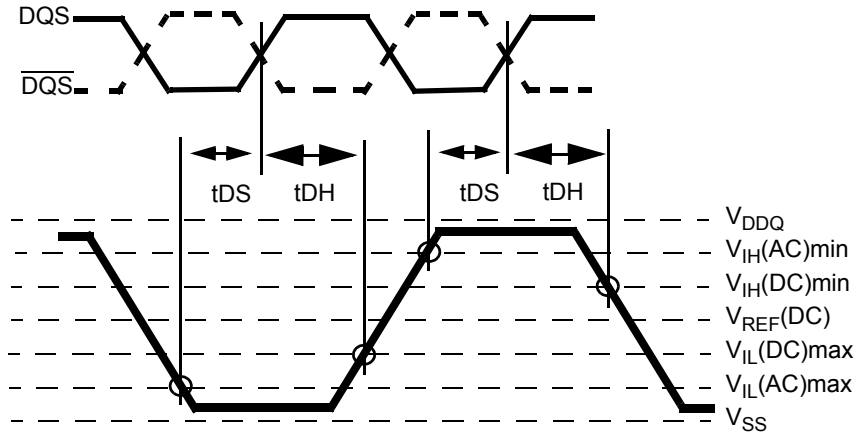

Figure 18 - Differential input waveform timing -  $t_{DS}$  and  $t_{DH}$
- 20. Input waveform timing  $t_{DS}$  with differential data strobe enabled  $MR[\text{bit}10]=0$ , is referenced from the input signal crossing at the  $V_{IH(AC)}$  level to the differential data strobe crosspoint for a rising signal, and from the input signal crossing at the  $V_{IL(AC)}$  level to the differential data strobe crosspoint for a falling signal applied to the device under test.  $DQS, \overline{DQS}$  signals must be monotonic between  $V_{IL(DC)\text{max}}$  and  $V_{IH(DC)\text{min}}$ . See Figure 18.
- 21. Input waveform timing  $t_{DH}$  with differential data strobe enabled  $MR[\text{bit}10]=0$ , is referenced from the differential data strobe crosspoint to the input signal crossing at the  $V_{IH(DC)}$  level for a falling signal and from the differential data strobe crosspoint to the input signal crossing at the  $V_{IL(DC)}$  level for a rising signal applied to the device under test.  $DQS, \overline{DQS}$  signals must be monotonic between  $V_{IL(DC)\text{max}}$  and  $V_{IH(DC)\text{min}}$ . See Figure 18.